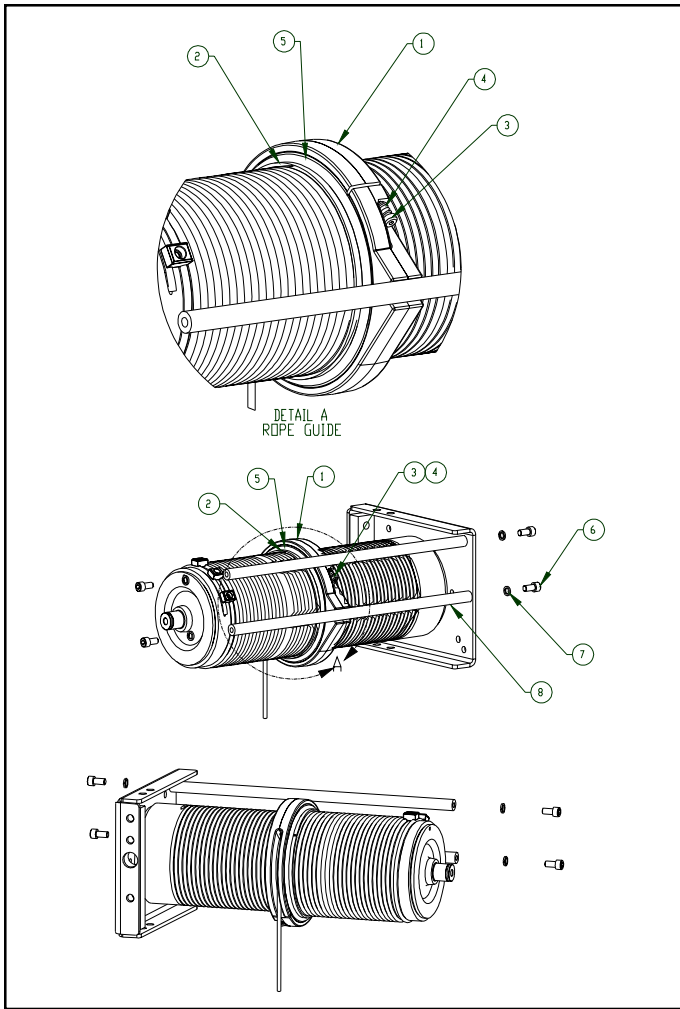

Figure 5-3 Rope Guide Assembly
- (1) Replace wire rope if the number of visible broken wires exceeds 13 over a length of 6 times the nominal diameter (6d) or exceeds 26 wires over a length of 30d.
- (2) Replace wire rope, if a complete strand has broken.
- (3) Replace wire rope, if rope exhibits swelling, bruises, permanent bends, kinks, crushing, bird-caging or especially heavy wear.
- (4) Replace wire rope, if rope has suffered heat damage from any cause.
b) Disassembly of "A" Frame Rope Guide. Refer to Fig. 5-3. For further assistance in locating components, refer to the parts list in Section IX.
- (1) Remove socket head cap screws and lock washers (Items 6 and 7). Remove drum frame rod (Item 8).
- (2) Remove shoulder bolts (Item 3) and compression springs (Item 4). The two halves of the rope guide body (Item 1) can now be pulled off the drum separately. When reassembling be sure that the half with the rope slot is on the top half of the drum.